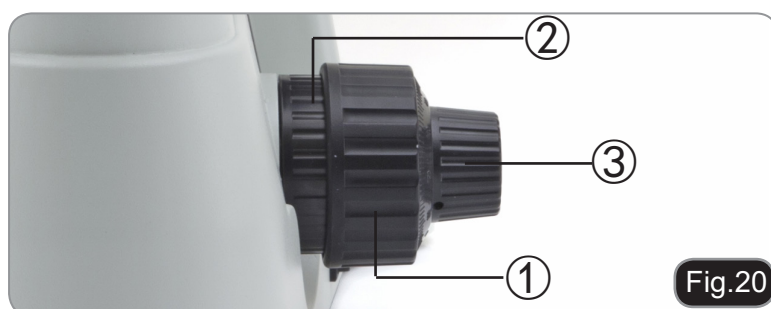

Fig.20
- The coarse focusing knob ① is pre adjusted to a tight tension upon leaving the factory.
If the nosepiece drops down by itself, or the specimen defocuses while adjusting the fine focus knob ③, the coarse focus knob is too loose. Turning the tension adjustment collar ② in clockwise direction tightens the coarse focus tension ①. Rotate in the opposite direction to decrease the tension. (Fig.20)